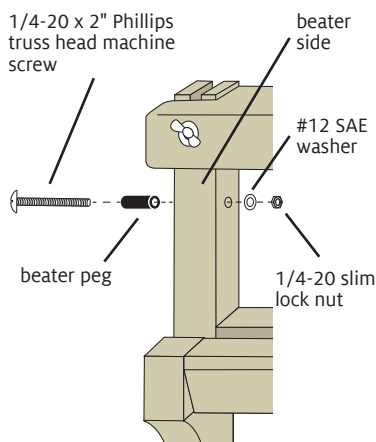

FIGURE 4: INSTALLING BEATER PEGS
8. Insert a 1/4-20 x 2" Phillips truss head machine screw, then through the beater side from its outer side (Figure 4).